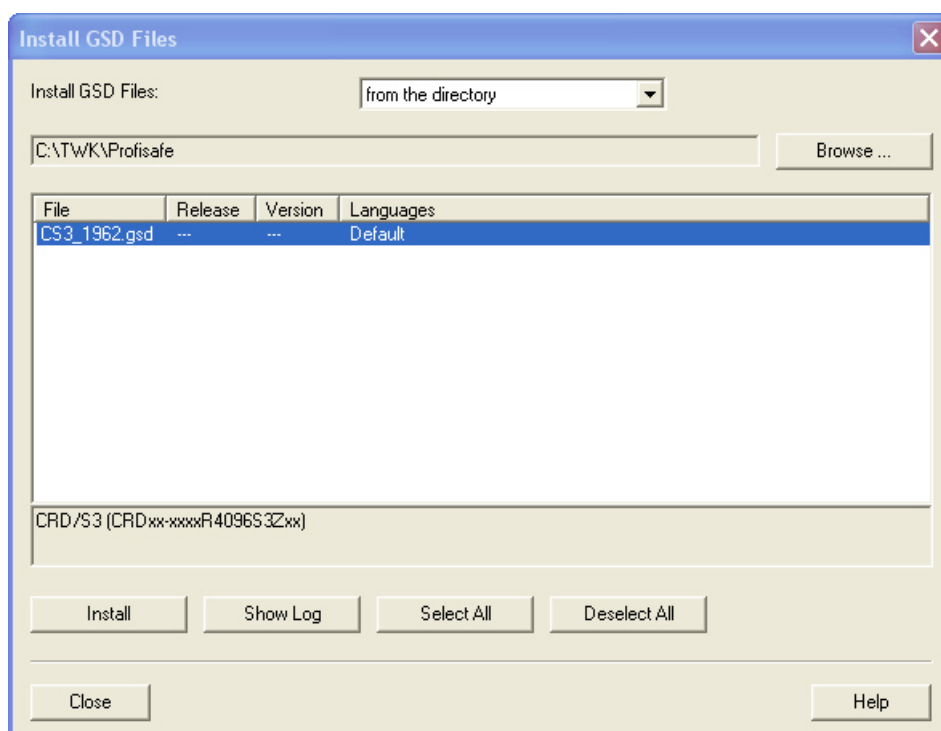

Figure 4
- Choose "from the directory", browse to the GSD file **CS3_1962.GSD** (see figure 4) and click on "Install".